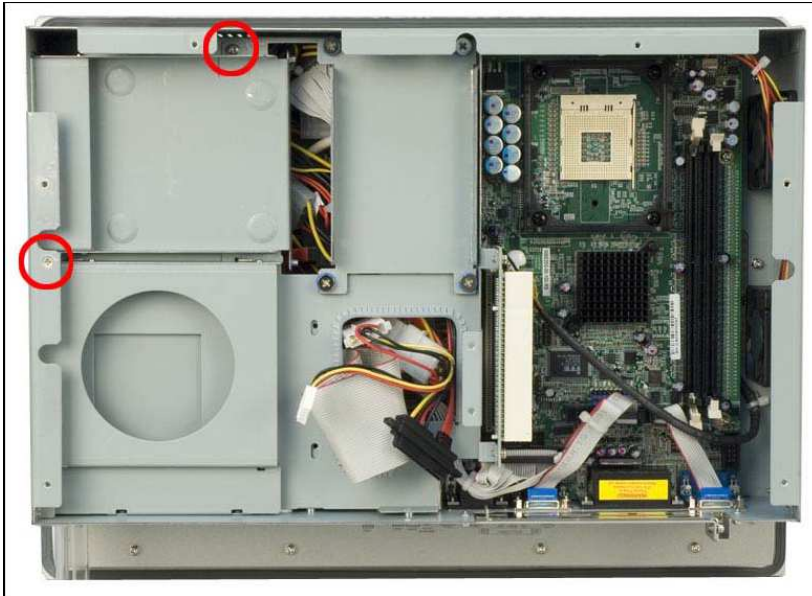

Figure 3-3: FDD Retention Screws
Step 1: The FDD bracket is attached to the elevated platform by two retention screws. (see **Figure 3-3**) Remove the two retention screws from the elevated platform and the chassis. Remove the FDD bracket by sliding toward the HDD.